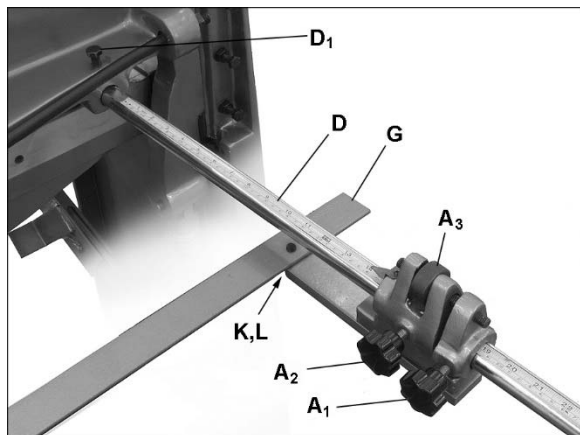

Figure 4
1. Insert rod (D, Figure 4) through adjustment block (A) and into frame. Make sure both rods are inserted an even amount into the frame. Tighten securely in place with screw (D₁).
2. Attach back stop (E) to adjustment block flange with M10 screw and flat washer (K,L) from underneath.
1. To position back stops, loosen all knobs (A₁, A₂, Figure 4) and slide adjustment blocks close to desired position on scale.